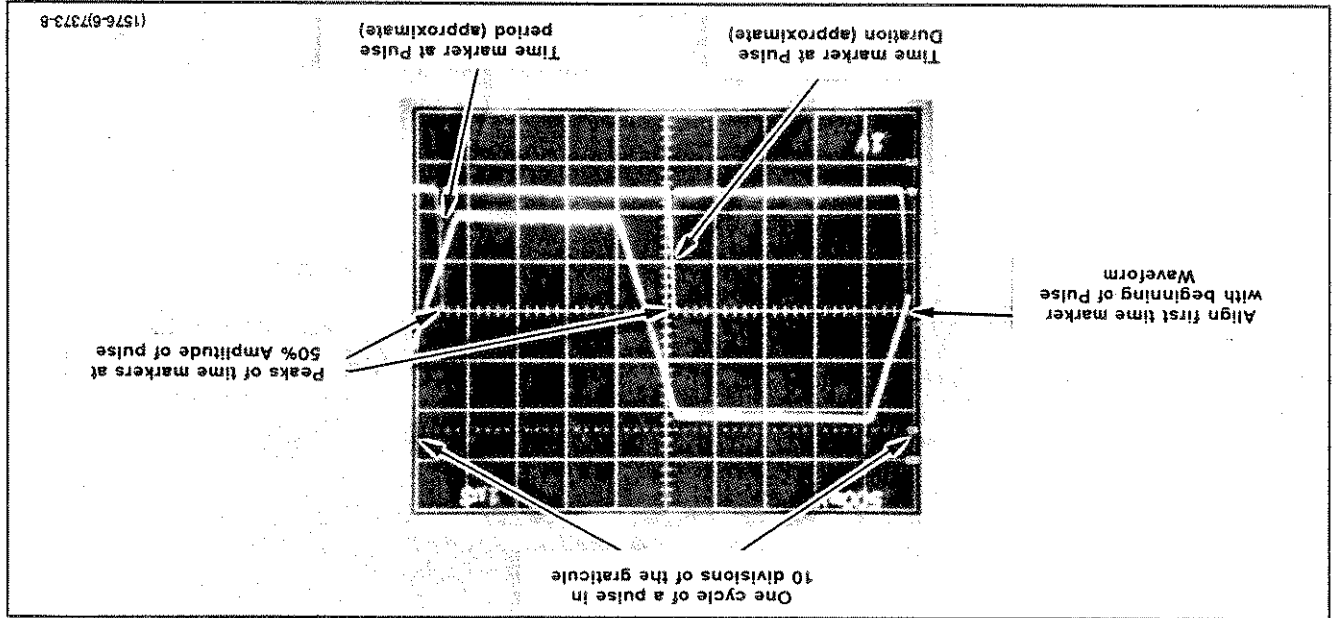

Fig. 2-5. Markers approximately at pulse duration and period.
4. Set the time/div switch to display 1 cycle of a pulse in 10 divisions of the graticule on the oscilloscope, as indicated in Figure 2-5.
5. Use the MARKER Control switch of the TG 501A to display one time marker approximately at pulse duration and one at pulse period. Align the first time marker with the beginning of pulse wave-form. See Figure 2-5.
7. Use the Vertical Position control of the oscilloscope to set the peaks of the time markers at 50% amplitude of the pulse shown in Figure 2-5.